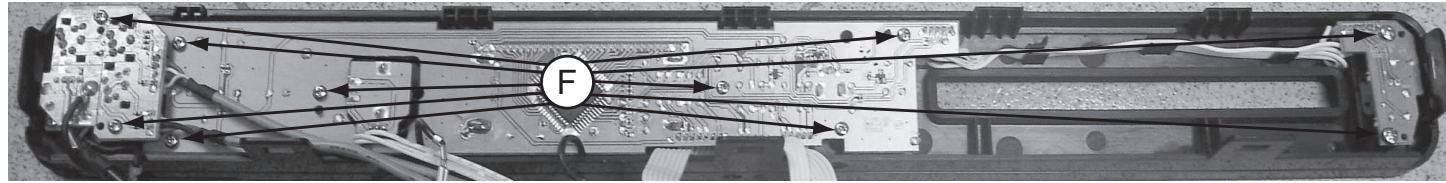

Figure 9
- 1) Loosen 10 screws "F" on the top of VFD+JACK+VOL+STANDBY Board as shown in figure 9.